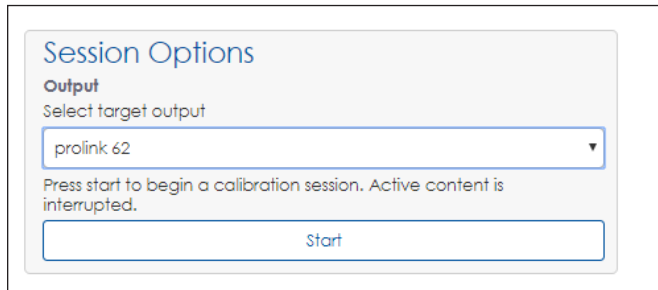

Figure 65: Calibration Session Options
1. Click **Start**. A **Session Options** window opens. Refer to **Figure 65**.